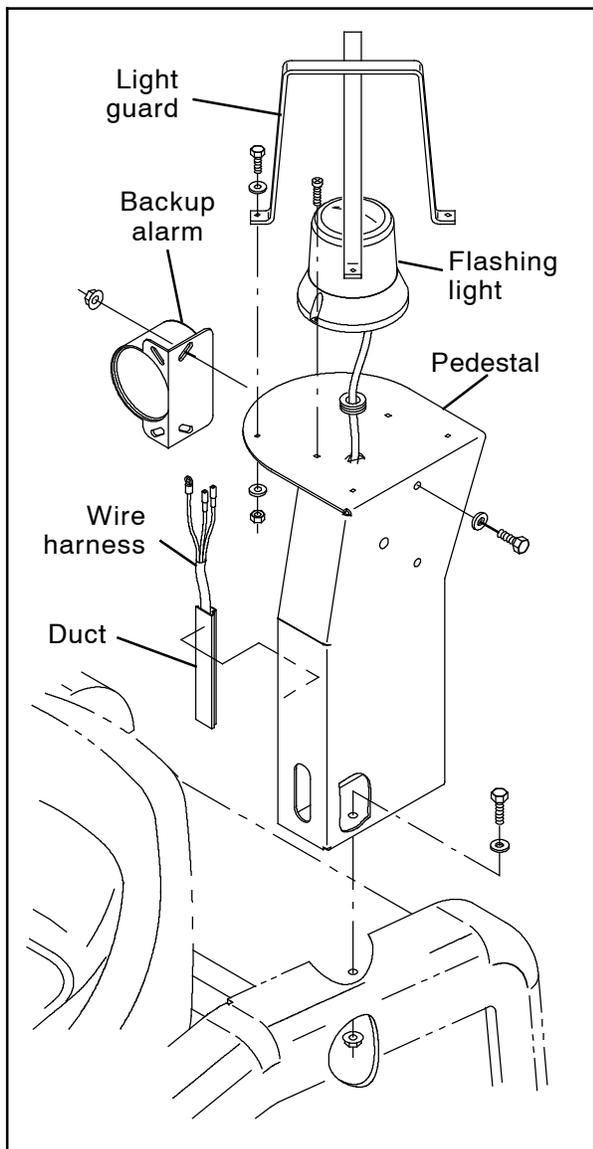
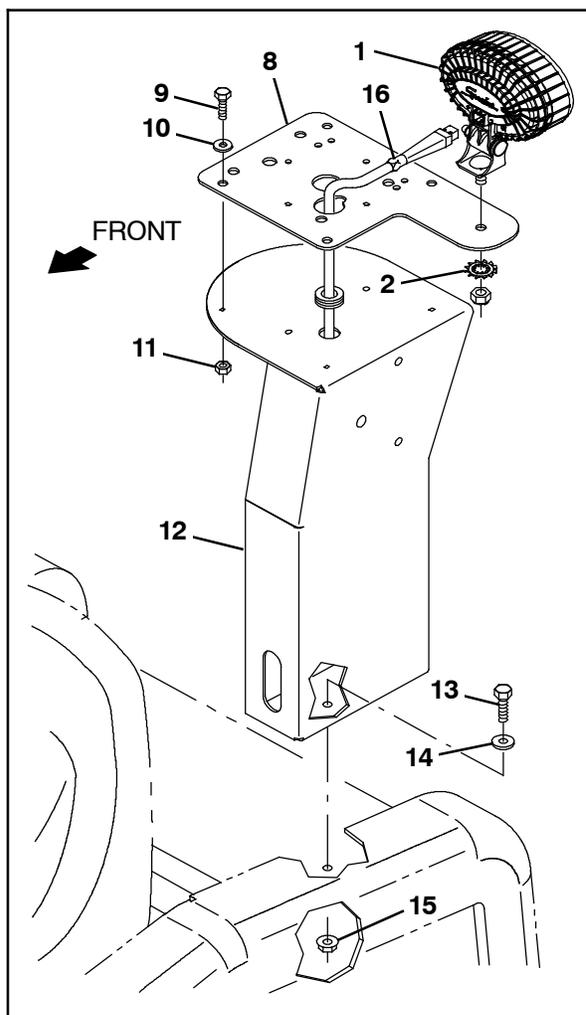

FIG. 12
FIG. 13
18. Disconnect the harness from the flashing light and/or backup alarm. (Fig. 12)
19. Remove the light guard/flashing light, and/or the backup alarm from the pedestal. Set the light guard/flashing light, and/or the backup alarm and all mounting hardware aside. (Fig. 12)
20. Remove the pedestal from the filter box assembly. Discard the pedestal and mounting hardware. (Fig. 12)
21. Use four M5 hex screws (9), four flat washers (10), and four M5 hex nuts (11) to install the rear spotlight bracket (8) onto the pedestal (12). (Fig. 13)
23. Use two M8 hex screws (13), two flat washers (14), and two M8 flange hex nuts (15) to install the pedestal (12) onto the filter box assembly. (Fig. 13)
24. **Machines equipped with strobe light and/or backup alarm option only:** Install these items previously removed from the removed pedestal onto the pedestal (12). (Fig. 12/Fig. 13)
26. Remove the hex nut included with the remaining blue LED spotlight (1) from the light. (Fig. 13)
27. Use the hex nut removed from the blue LED spotlight (1) in the previous step and a lock washer (2) to install the blue LED spotlight (1) onto the rear spotlight bracket (8). (Fig. 13)